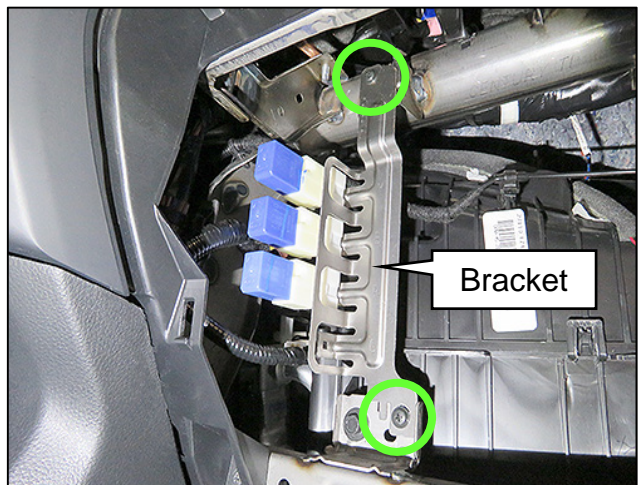

Figure 4
2. Detach the bracket holding the relays from the cross brace (Figure 4), and allow it to hang.
- Attached by (2) screws.